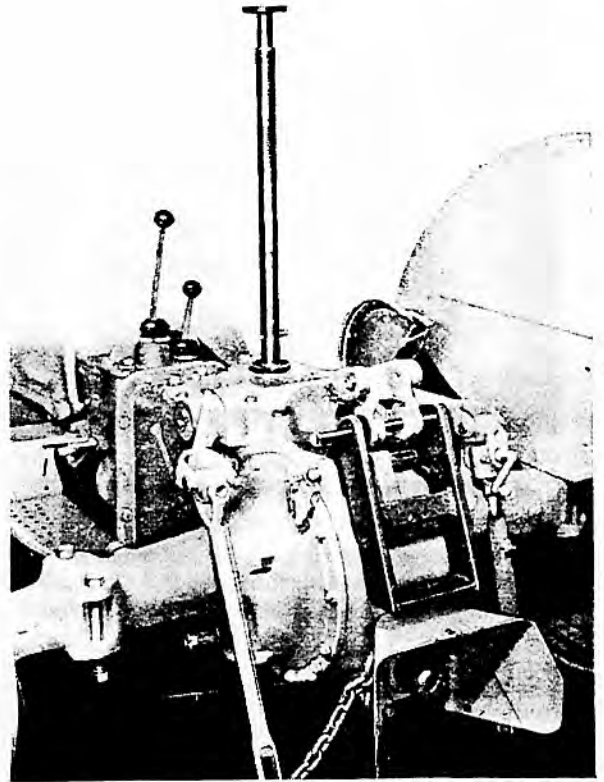

FIG. 10 MF.226 FITTED TO TRACTOR
3. Fit Service Tool MF.226 to centre housing and hydraulic lift cover as shown in Fig. 10 and remove hydraulic lift cover to centre housing bolts.